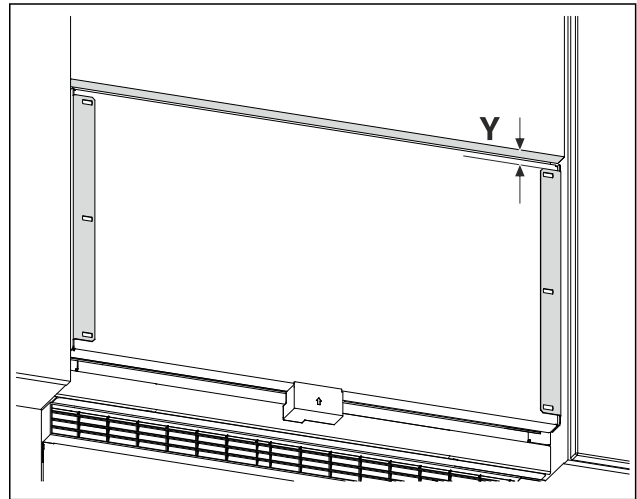

Fig. 25 Example illustration
- ▶ Measure the distance Fig. 25 (Y) from the bottom edge of the cabinet door to the bracket angle.